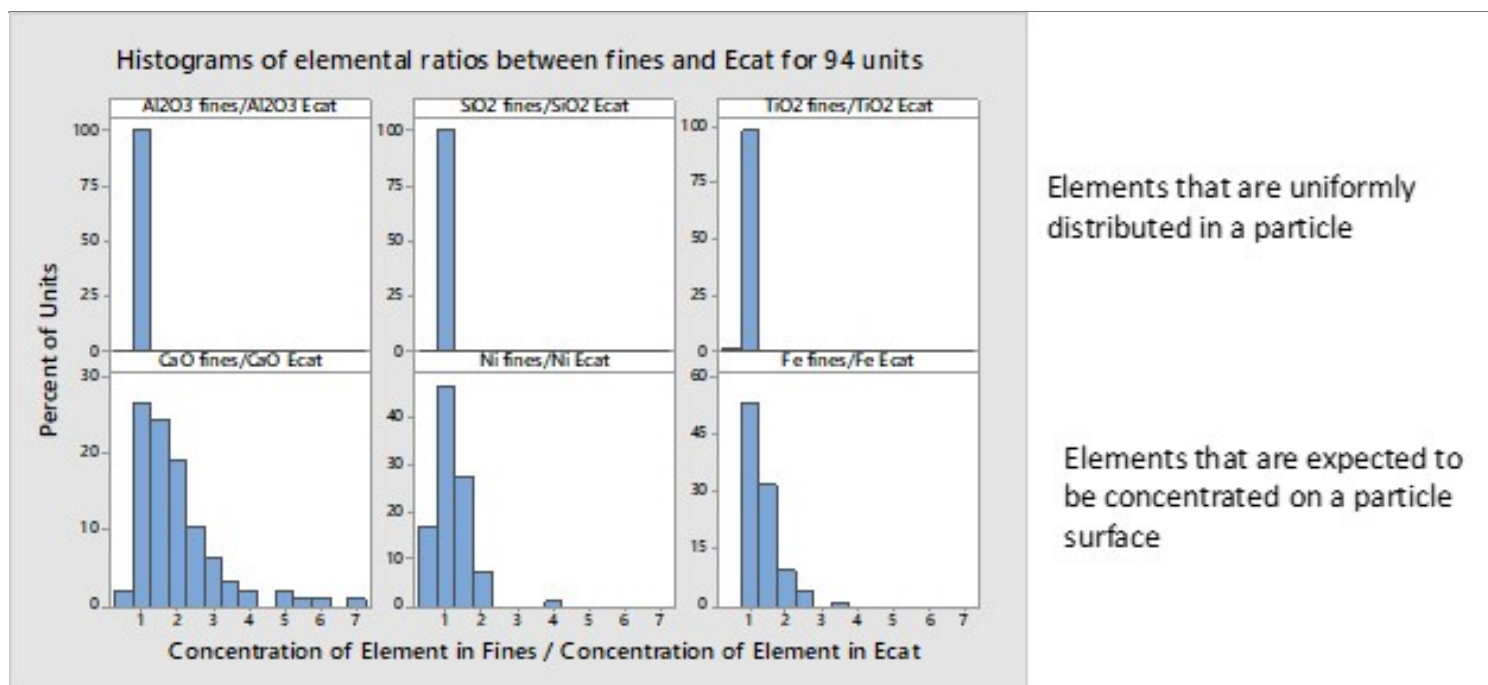

Figure 1. Abrasion is the most common mechanism, based on evidence that fines for most units are enriched in surface contaminants such as Ca, Fe, and Ni.
A number of operating factors influence catalyst losses from the regenerator that can lead to particulate matter (PM) emissions. These factors include: the number of fines present in the freshly added catalyst, the number of fines generated in the unit, the amount of catalyst transport to the cyclones by entrainment, and the cyclone performance. Fines are the most important factor in catalyst losses, because the fines are most readily lost by the cyclones and the collection efficiency of cyclones drops as particle size drops. FCC catalyst fines (0-20 micron) can come from either fresh catalyst that is added to the unit or be generated via attrition while the catalyst circulates in the unit. Catalyst can experience attrition in the unit from either fracture (catalyst breaking into smaller fragments due to severe impact of the particle against a solid surface, severe impact against other particles, or impact from a jet of steam or air) or due to abrasion where rubbing against a solid surface or other particles erodes the particle at the outer surface and produces fines. Abrasion has a lower threshold energy than fracture18. While both fracture and abrasion occur in FCC units, abrasion is the dominant mechanism of fines generation in most FCC units. The evidence for this is that the fines for most units are enriched in surface contaminants such as calcium, iron, and nickel. If abrasion is the dominant mechanism, one would expect fines to be enriched in surface contaminants; while if fracture were the dominant mechanism, one would expect the fines composition to be the same as the bulk e-cat. Figure 1 presents data for 94 units where the concentration ratio of an element in fines versus e-cat is presented. As seen in the graph, there is no enrichment in fines in elements that are uniformly distributed in a particle (such as aluminum, silicon, and titanium), but there is strong enrichment of the fines of many units in the surface contaminants such as calcium, nickel and iron.